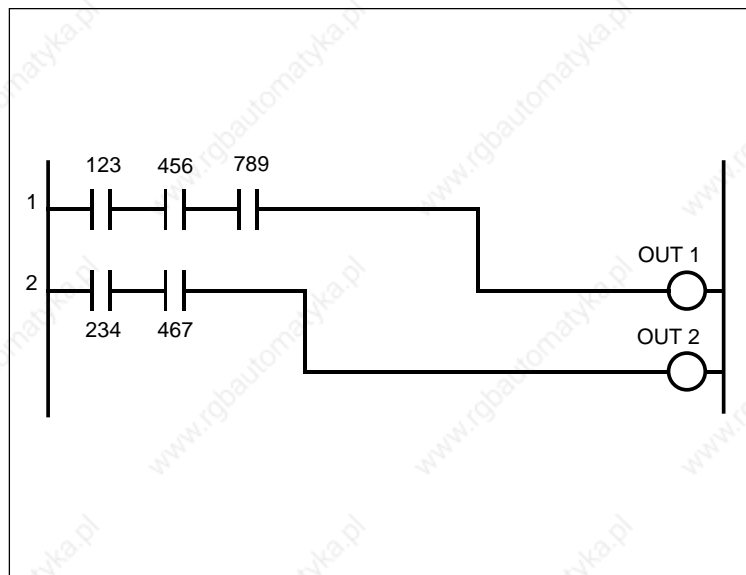

Figure 12. Two Rungs Cannot Share the Same Line
- Two different ladder rungs cannot share the same line (see Figure 12).